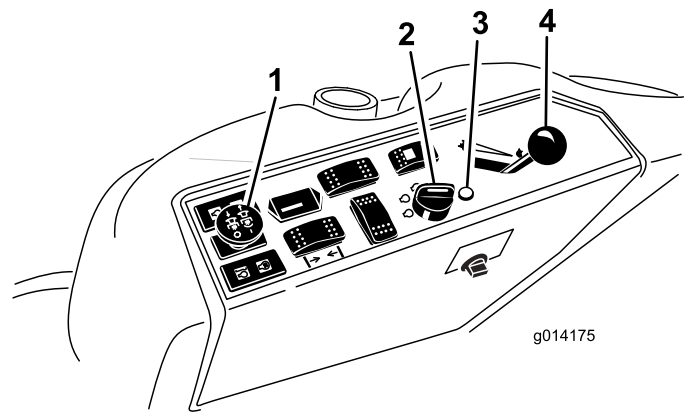

Figure 11
4. Move the PTO (power take off) switch to the off position (Figure 11).
5. Move the throttle lever midway between the Fast and Slow positions (Figure 11).